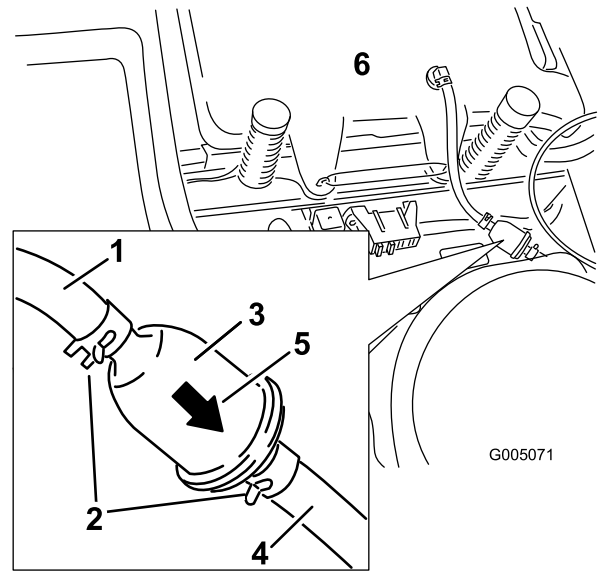

Figure 28
4. Squeeze the ends of the hose clamps together and slide them away from the filter (Figure 28).
6. Install a new filter with the flow direction arrow coming from the fuel tank and pointing to the engine. Move the hose clamps close to the filter (Figure 28) to secure it in place.